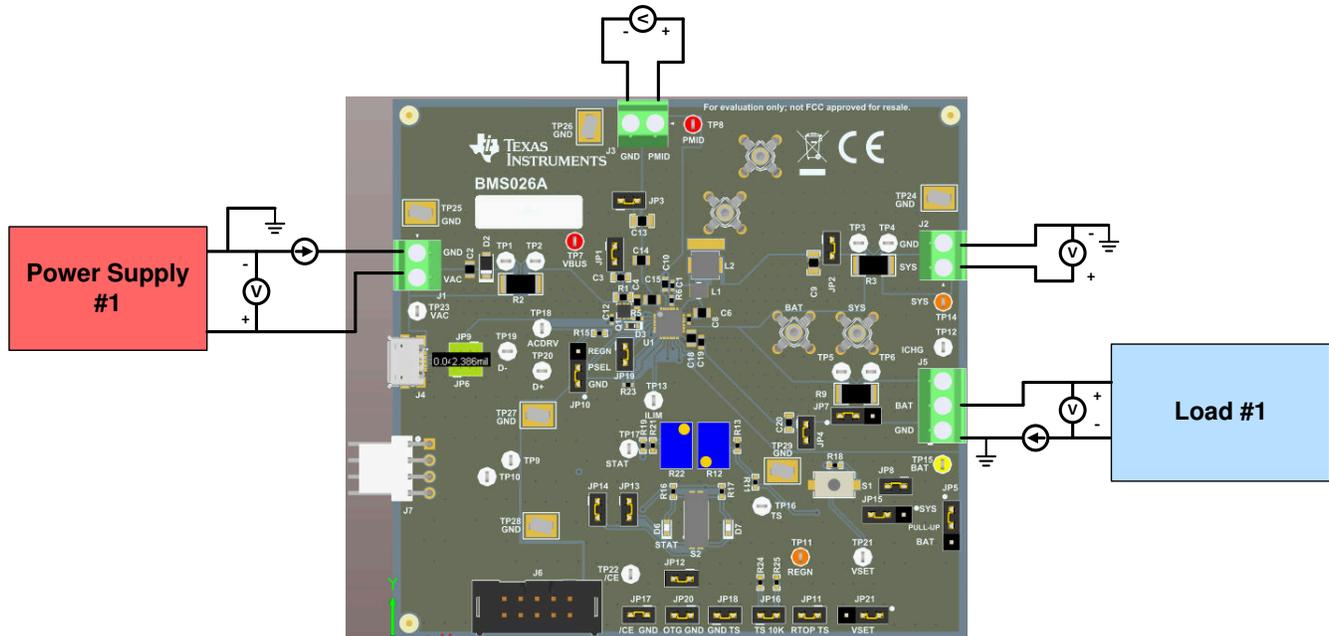

Figure 2-1. Original Test Setup for BMS026 EVM
5. Turn on Load #1, set to constant voltage mode, and output to 3.7-V. Disable Load. Connect Load in series with a current meter (multimeter), ground side, to J5 (BATTERY and GND) as shown in Figure 2-1.
6. Connect one voltage meter across TP15 (BAT) and TP24 (PGND), or across J4-2 and J4-1 as shown in Figure 2-1.
7. Connect one voltage meter across TP14 (SYS) and TP24 (PGND), or across J2-1 and J2-2 as shown in Figure 2-1.